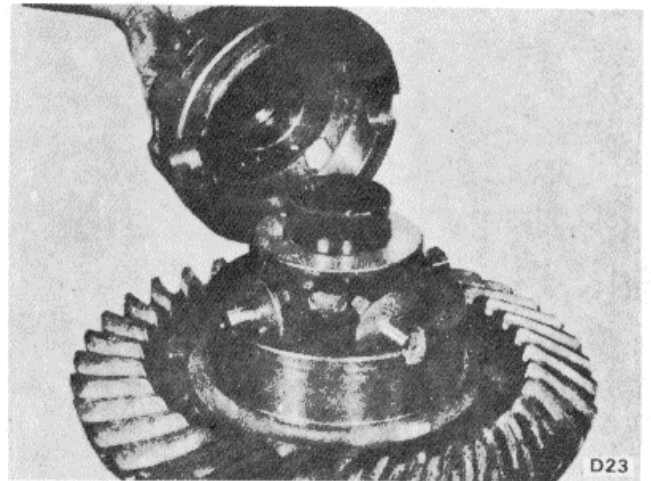

Figure 9C-43. Removing Plain Half Case
12. Lift side gear and thrust washer from flange half, Figure 9C-44.